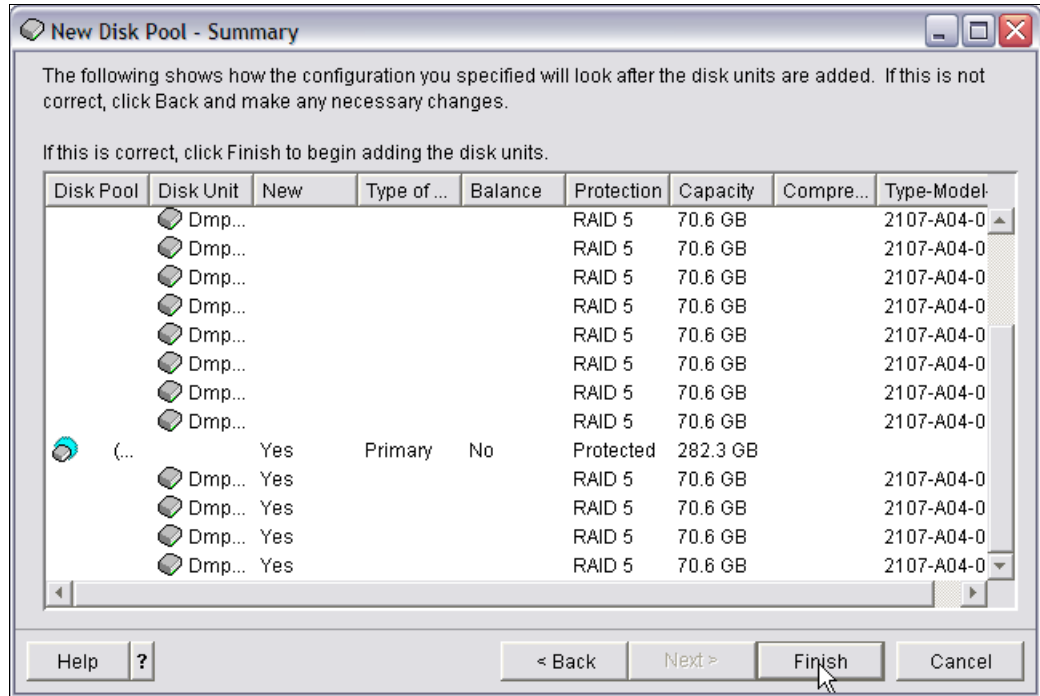

Figure 11-22 New Disk Pool - Summary
12. In the New Disk Pool - Summary window (Figure 11-22), click **Finish** to add disks to the disk pool.